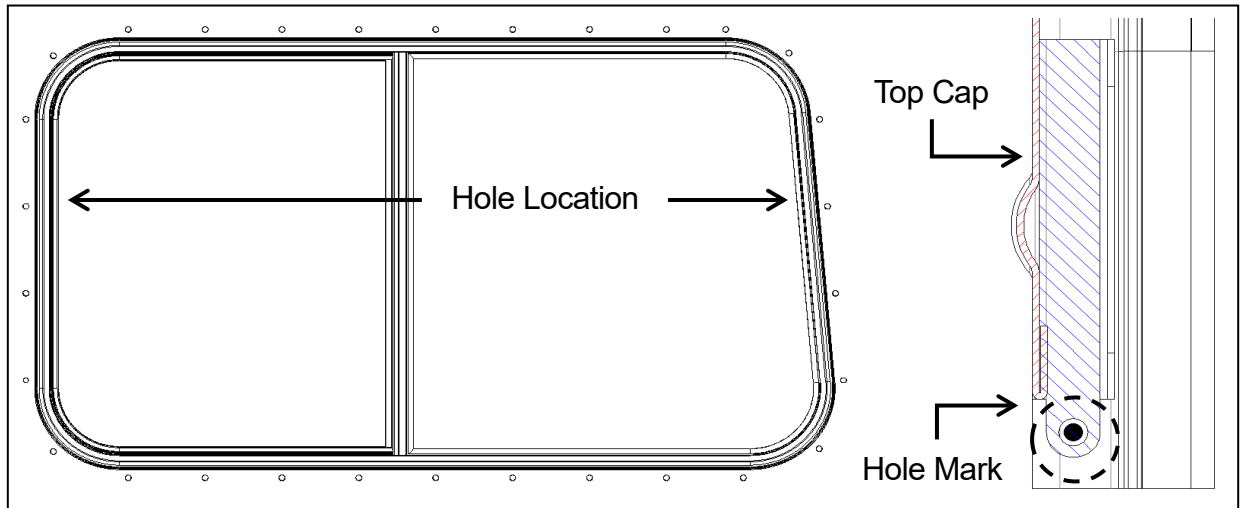

Fig. 1
1. Mark hole locations on Aluminum trim of the truck as Figure 1 shows.